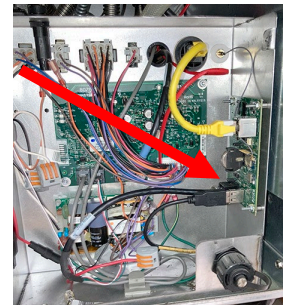

Figure 10
14. The KCCM board is located on the right side of the FIB box (see Figure 10).